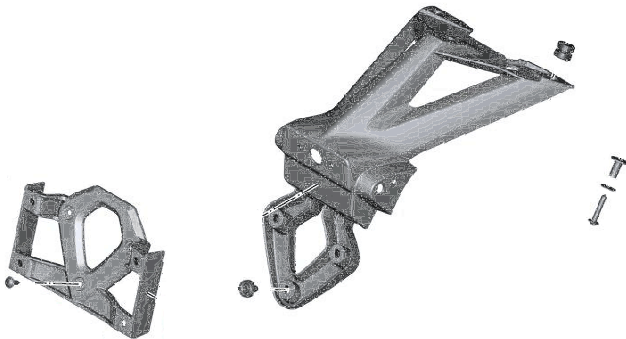

Fig. 1
3. Remove mounting bolts for rear license plate assembly (fig. 1)